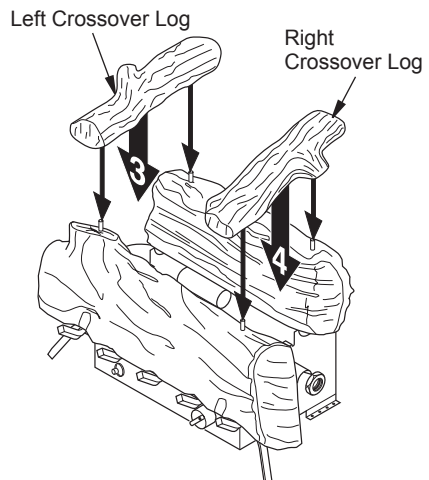

Figure 28 - Installing Left and Right Crossover Logs
3. Place left and right crossover logs on top of back log and front log. Make sure pins on front and back are inserted into holes on crossover logs (see Figure 28). Crossover logs must be placed as shown in Figure 28 or holes will not seat onto pins.